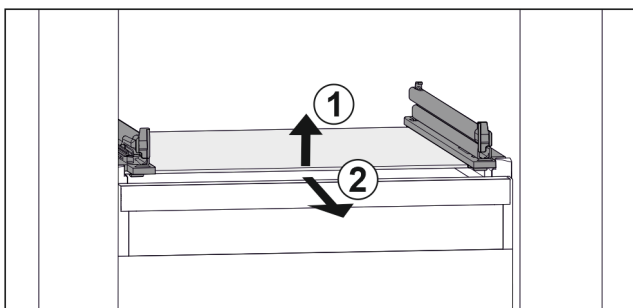

Fig. 111 Example illustration of glass shelf
- ▶ Lift glass shelf at the front. Fig. 111 (1)
- ▶ Take out glass shelf to the front. Fig. 111 (2)